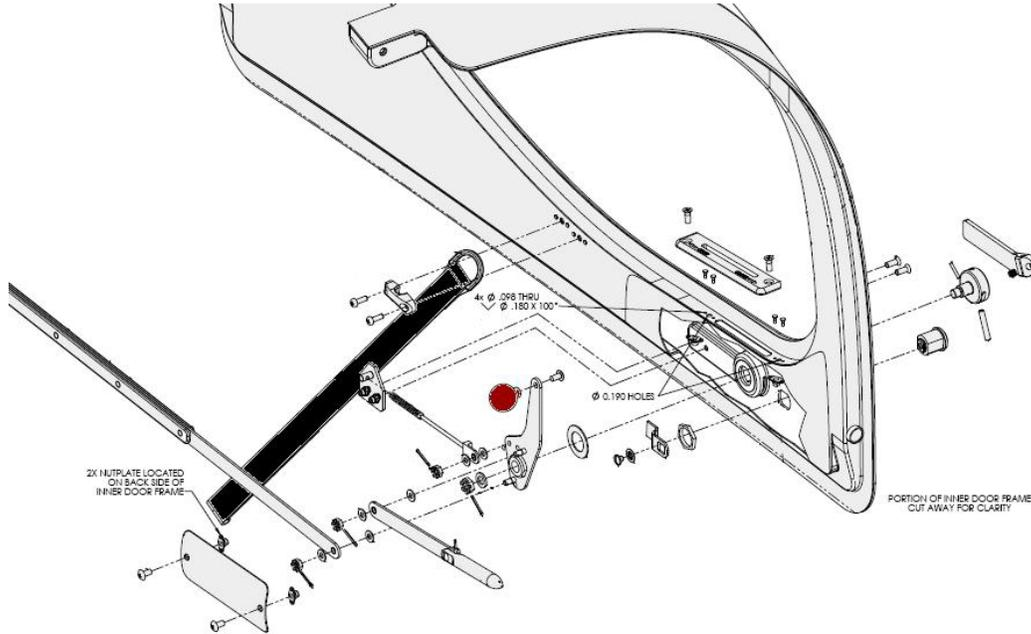

Figure 52-7 Exploded View of the Door Latch and Lock Mechanisms
This section details the procedure to remove and install the door latch mechanism. See Figure 52-7 for an exploded view of the door latch and lock mechanisms.
Some parts shown in Figure 52-7 are for reference only and are not available as an individual field replaceable part. Those parts are part of an assembly with other associated parts. See notes in the associated procedures.
13. Install the forward and aft actuator pin assemblies using the guide wire that from steps 5 and 6 in the procedure in subsection Figure 52-7 Door Latch Removal.
19. Remove the alignment wire installed in steps 5 and 6 in the procedure in subsection Figure 52-7 Door Latch Removal.
This section details the procedure to remove and install the door lock mechanism. See Figure 52-7 for an exploded view of the door latch and lock mechanisms.
This section details the procedure to remove and install the door strap mechanism. See Figure 52-7 for an exploded view of the door latch and lock mechanisms.